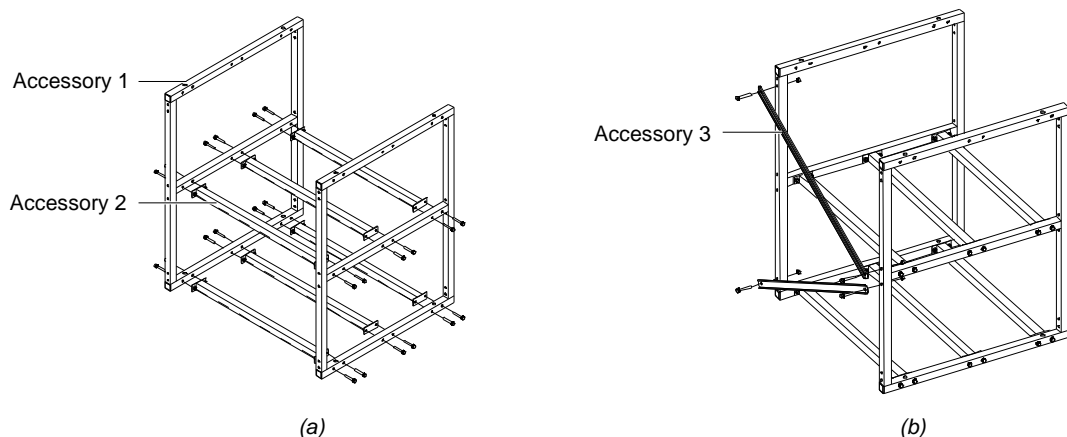

Figure 2 Installation procedure of accessory 1 ~ accessory 3
- 1) Install accessory 1 and accessory 2 according to Figure 2 (a).
- 2) Install accessory 3 according to Figure 2 (b).
- 1) Install accessory 1, accessory 2 and accessory 3 according to Figure 2 (a) and Figure 2 (b).